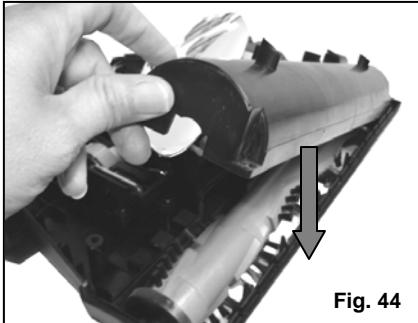

Fig. 44
12. Replace the rush roll cover over the agitator. (Fig. 44)